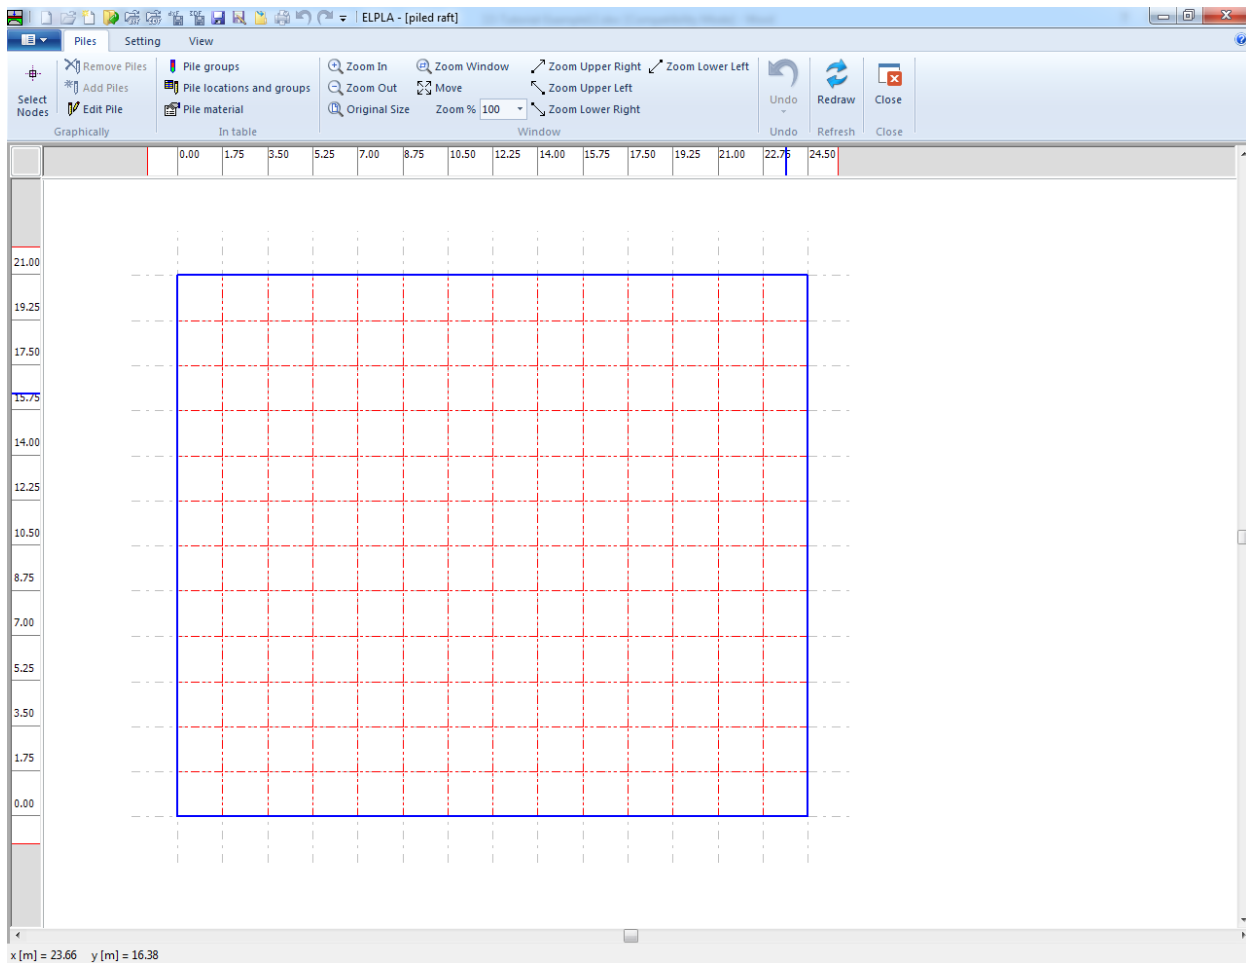
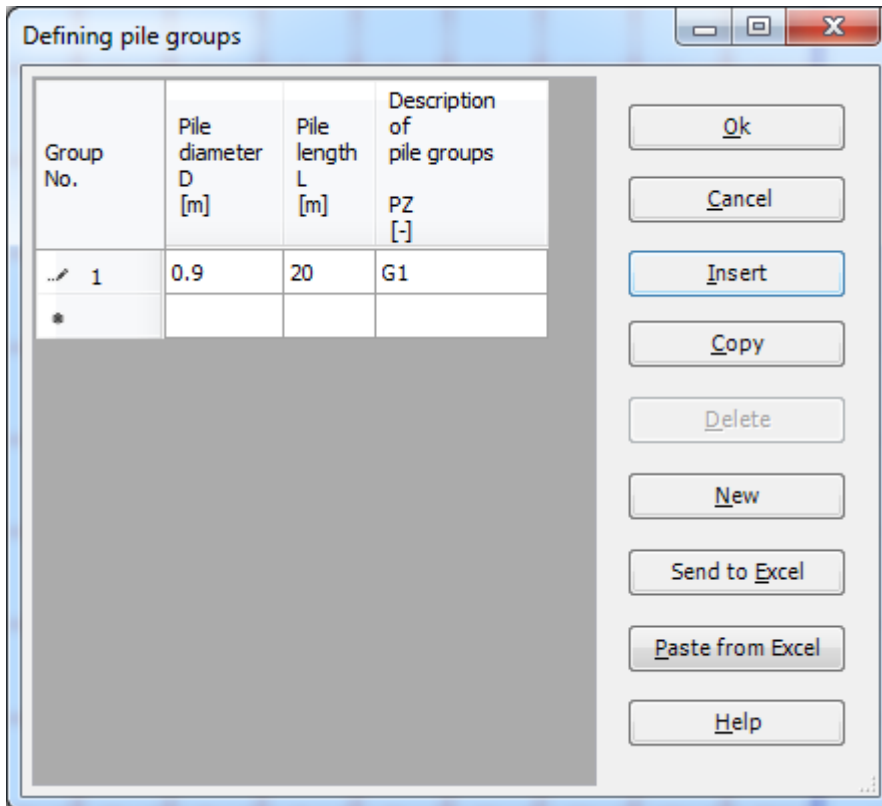
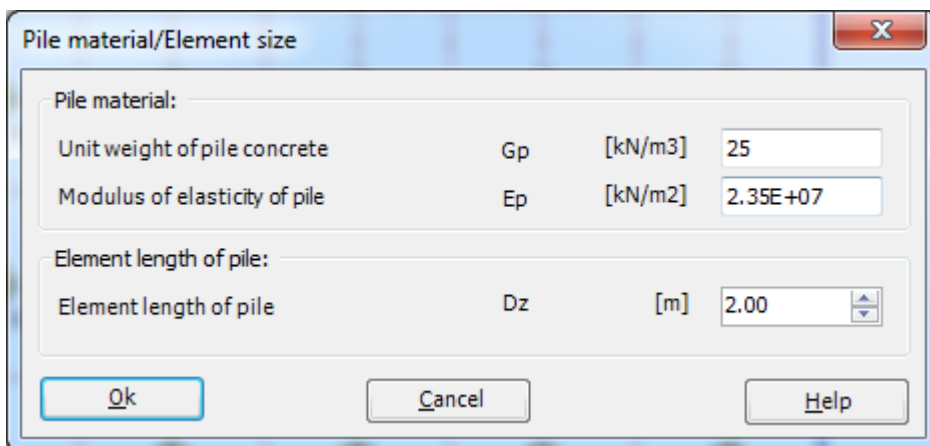

Figure 12.13 "Piles" Window
Figure 12.14 Defining pile groups
Figure 12.15 "Defining element groups" dialog box
To define piles, choose "Piles" command from "Data" Tab. The following window Figure 12.13 appears.
To define pile groups that have the same diameter and length, choose "Pile groups" command from "Piles" Tab in Figure 12.13. When the "Pile" groups" command is chosen, the following table in Figure 12.14 appears allowing you to define the pile diameter and length.
To define pile material, choose "Pile material" command from "Piles" Tab in Figure 12.13. When the "Pile material" command is chosen, the following dialog box in Figure 12.15 appears.
- Choose "Select nodes" command from "Piles" Tab in Figure 12.13